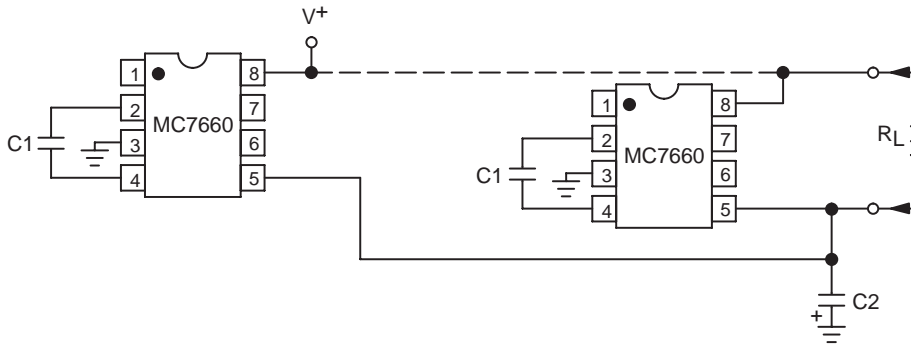
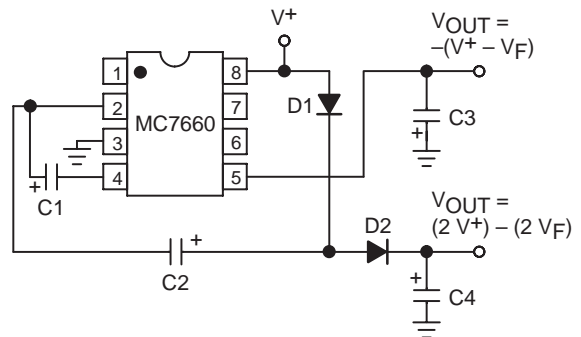
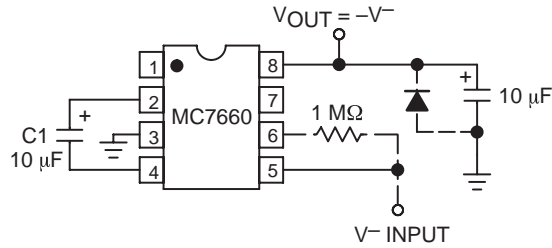
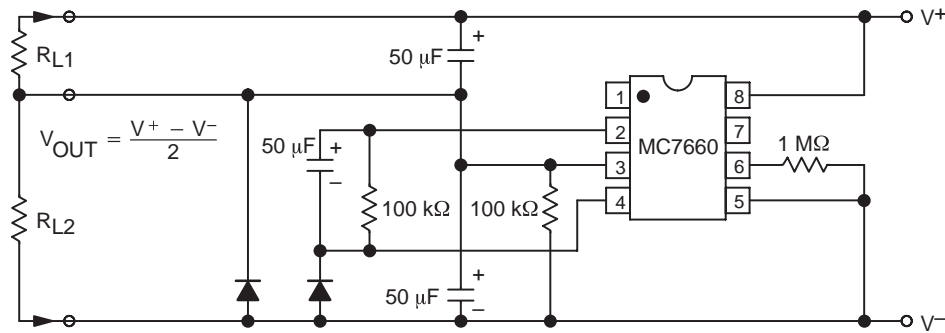

**Figure 3. Simple Negative Converter**
Figure 9. Combined Negative Converter and Positive Multiplier
Figure 10. Positive Voltage Conversion
Figure 11. Splitting a Supply in Half
Figure 3 shows typical connections to provide a negative supply where a positive supply is available. A similar scheme may be employed for supply voltages anywhere in the operating range of +1.5V to +10V, keeping in mind that pin 6 (LV) is tied to the supply negative (GND) only for supply voltages below 3.5V.
The output characteristics of the circuit in Figure 3 are those of a nearly ideal voltage source in series with 70Ω. Thus, for a load current of -10mA and a supply voltage of +5V, the output voltage would be -4.3V.
Figure 9 combines the functions shown in Figures 3 and 8 to provide negative voltage conversion and positive voltage multiplication simultaneously. This approach would be, for example, suitable for generating +9V and -5V from an existing +5V supply. In this instance, capacitors  $C_1$  and  $C_3$  perform the pump and reservoir functions, respectively, for the generation of the negative voltage, while capacitors  $C_2$  and  $C_4$  are pump and reservoir, respectively, for the multiplied positive voltage. There is a penalty in this configuration which combines both functions, however, in that the source impedances of the generated supplies will be somewhat higher due to the finite impedance of the common charge pump driver at pin 2 of the device.
Since the switches that allow the charge pumping operation are bidirectional, the charge transfer can be performed backwards as easily as forwards. Figure 10 shows a MC7660 transforming  $-5V$  to  $+5V$  (or  $+5V$  to  $+10V$ , etc.). The only problem here is that the internal clock and
switch-drive section will not operate until some positive voltage has been generated. An initial inefficient pump, as shown in Figure 9, could be used to start this circuit up, after which it will bypass the other ( $D_1$  and  $D_2$  in Figure 9 would never turn on), or else the diode and resistor shown dotted in Figure 10 can be used to "force" the internal regulator on.
The same bidirectional characteristics used in Figure 10 can also be used to split a higher supply in half, as shown in Figure 11. The combined load will be evenly shared between the two sides. Once again, a high value resistor to the LV pin ensures start-up. Because the switches share the load in